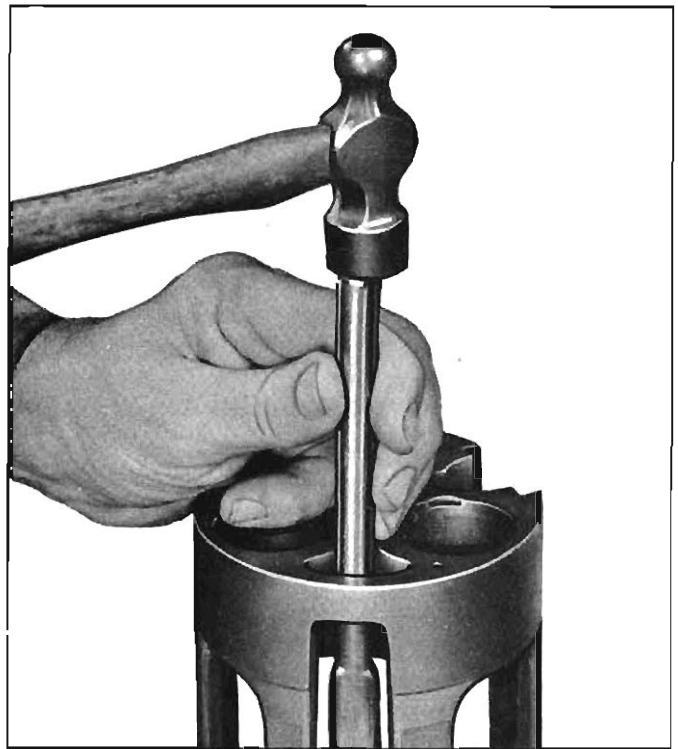

Fig. 11-47—Unseating Discharge Crossover Tube
2. Use J-9492 to drive discharge tube out of cylinder fig. 11-47. (Drive toward REAR of cylinder.)